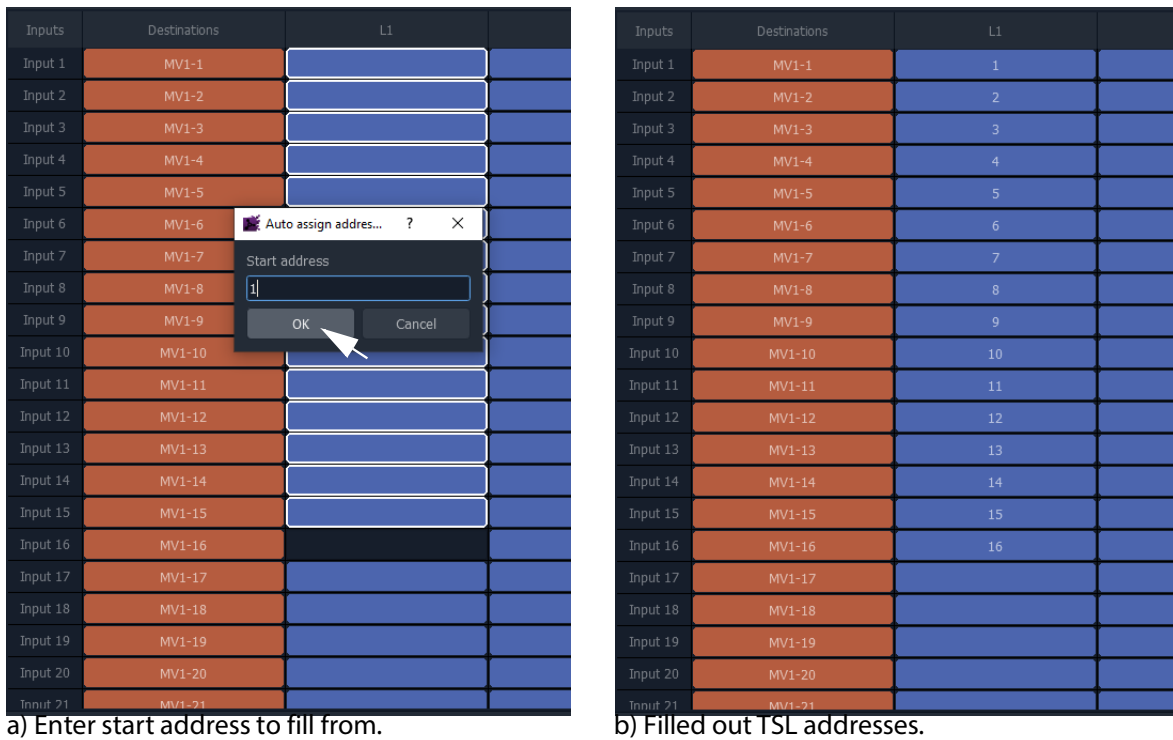

Fig. 16-4: TSL Address Range Filled Out
- 3 Click on the **Auto-Assign TSL Addresses** button and enter a start TSL address in the pop-up dialog. (See Figure 16-4.)